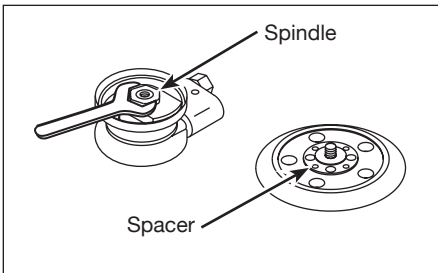

Figure 2 - Sanding pad assembly
2. Position supplied wrench on hexagonal spindle and hold in place (See Figure 2).
3. Make sure spacer is in place on threaded stud of sanding pad (See Figure 2) then hand tighten pad to spindle by turning clockwise. Remove wrench.